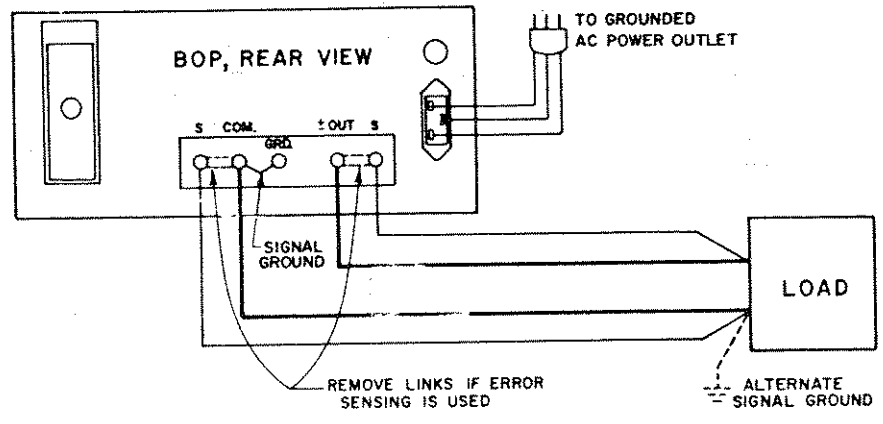

FIG. 3-3 LOAD CONNECTION WITH ERROR SENSING AND GROUNDING CONNECTIONS BETWEEN THE BOP AND THE LOAD.
C) LOAD CONNECTION (11). The recommended load connection for all applications requiring minimum load effect across a remote load is shown in FIG. 3-3. A twisted, shielded pair of wires (No. 20 AWG minimum) are connected from the BOP sensing terminals to the load. This "remote error sensing" technique will compensate for load wire voltage drops up to 0.5 volts per wire.